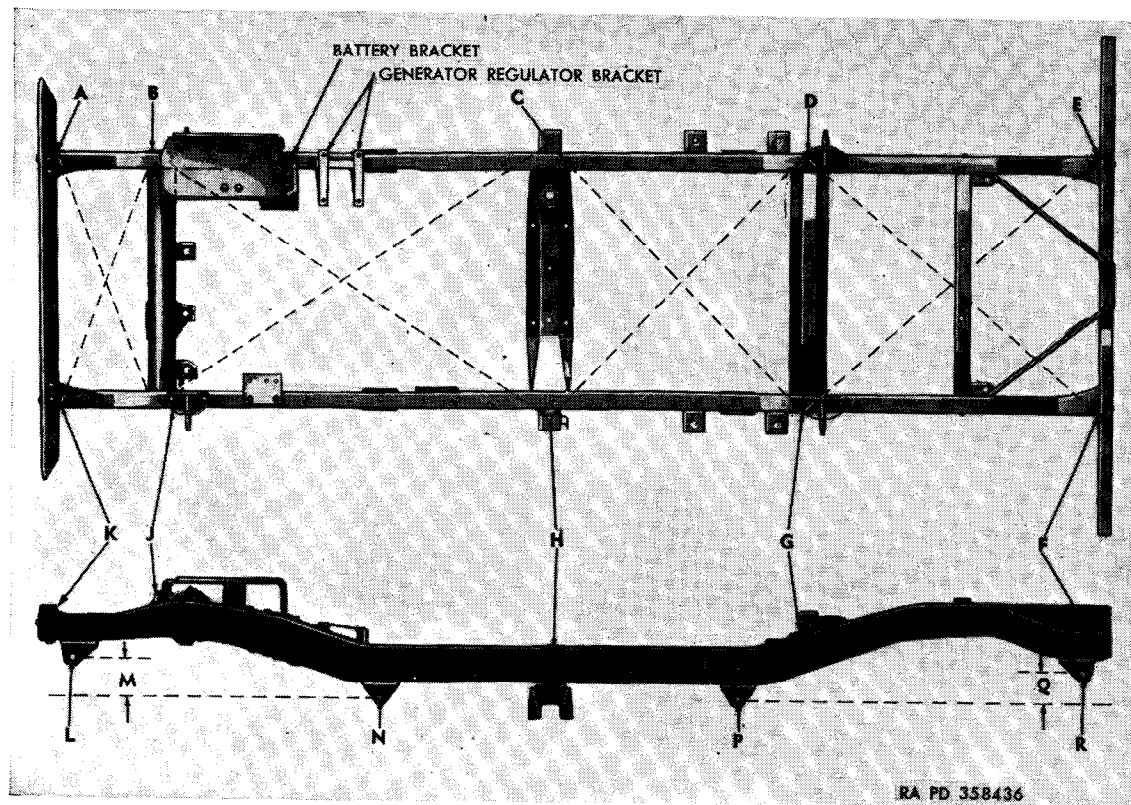

Figure 109. Frame—top and side view.
- a. Frame Dimensions* (fig. 109). To supply as much information as possible to aid in checking frames or to repair damage due to accidents, the main measurements of the frame are given in this paragraph. The over-all length of the frame is 122 $\frac{3}{4}$ inches. The width measured between the outside faces of the frame side members is 29 $\frac{1}{4}$ inches. Distance "L" to "N" indicates the correct distance of 38 $\frac{3}{4}$ inches
b. *Check Frame Alinement* (fig. 109). The extent of the misalignment of the frame can be determined by taking measurements at the various points. Measure the distance from points "A" to "J" and from "B" to "K." The difference between these two measurements should not be more than one-eighth of an inch. Measure the distance from points "B" to "H" and "C" to "J." The difference between these two measurements should not be more than one-eighth of an inch. Measure the distance from points "D" to "H" and "C" to "G." The difference between these two measurements should not be more than one-eighth of an inch. Measure the distance between points "D" to "F" and "E" to "G." The difference between these two measurements should not be more than one-eighth of an inch.
b. *Repair Loose Rivets and Brackets* (fig. 109). Replace all rivets that are loose or missing. Replace any damaged body brackets. Replace the battery bracket or voltage regulator brackets if they are damaged or bent beyond repair on the frame.